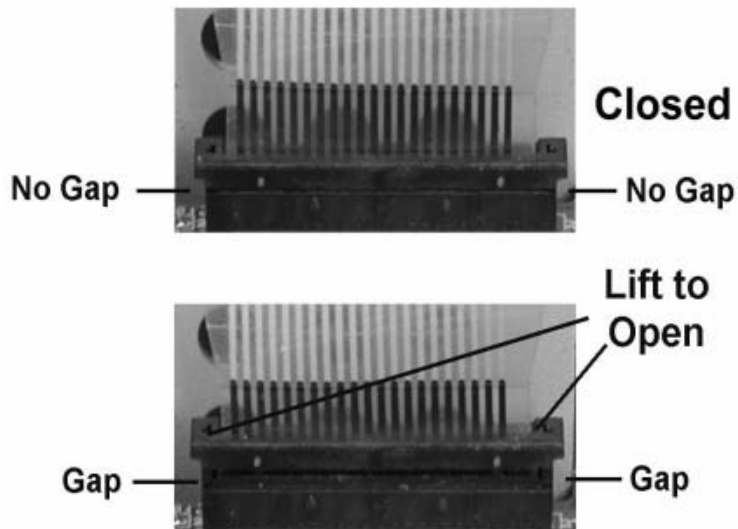

Figure 2-4: Removing the Keyboard Ribbon Cable
- o Remove the keyboard ribbon cable from the system board connector. This connector has a latching mechanism to secure the cable. Pull up on the upper half of the connector body until the gap shown in the lower half of Figure 2-4 appears, then remove the cable.